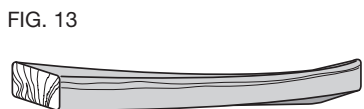

FIG. 13
**TO PLANE TWISTED WOOD (FIG. 13)**